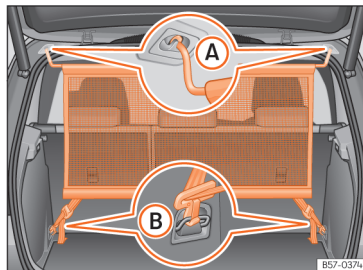

Fig. 173 Net partition fitted.
- Hook the net partition to the left-hand side roof housing »» Fig. 173 A. Be sure to pull the cross rod down past the upper position.
- Hook in the net partition on the rear right-hand side roof housing by pressing on the bar >>> Fig. 173 A.
- Secure two hooks of the partition net to the fastening rings of the boot >>> Fig. 173 B and tighten the straps firmly.